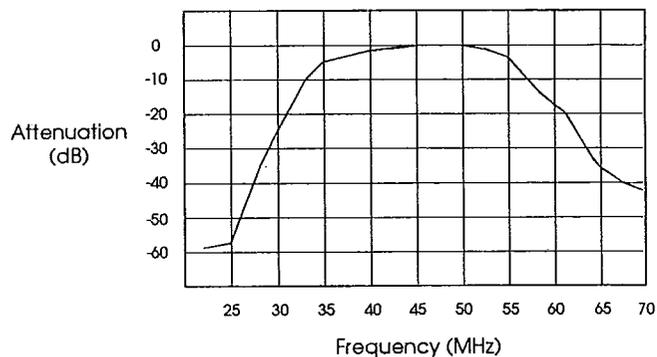

Figure 4 Low-Band FILTER RESPONSE
3. Adjust the trimmer caps (C199 & C200) in the two low band filters until the desired response is achieved (as shown in Figure 4).